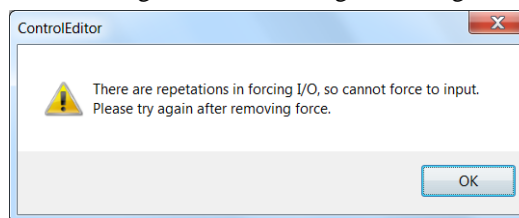

Fig. 6.4.10 Warning message for overlapping in I/O memory area
- In Ver.5.00 or higher, message dialog for removing force input (Fig. 6.4.10) is displayed when Control Editor is closed in the state of forcing input.